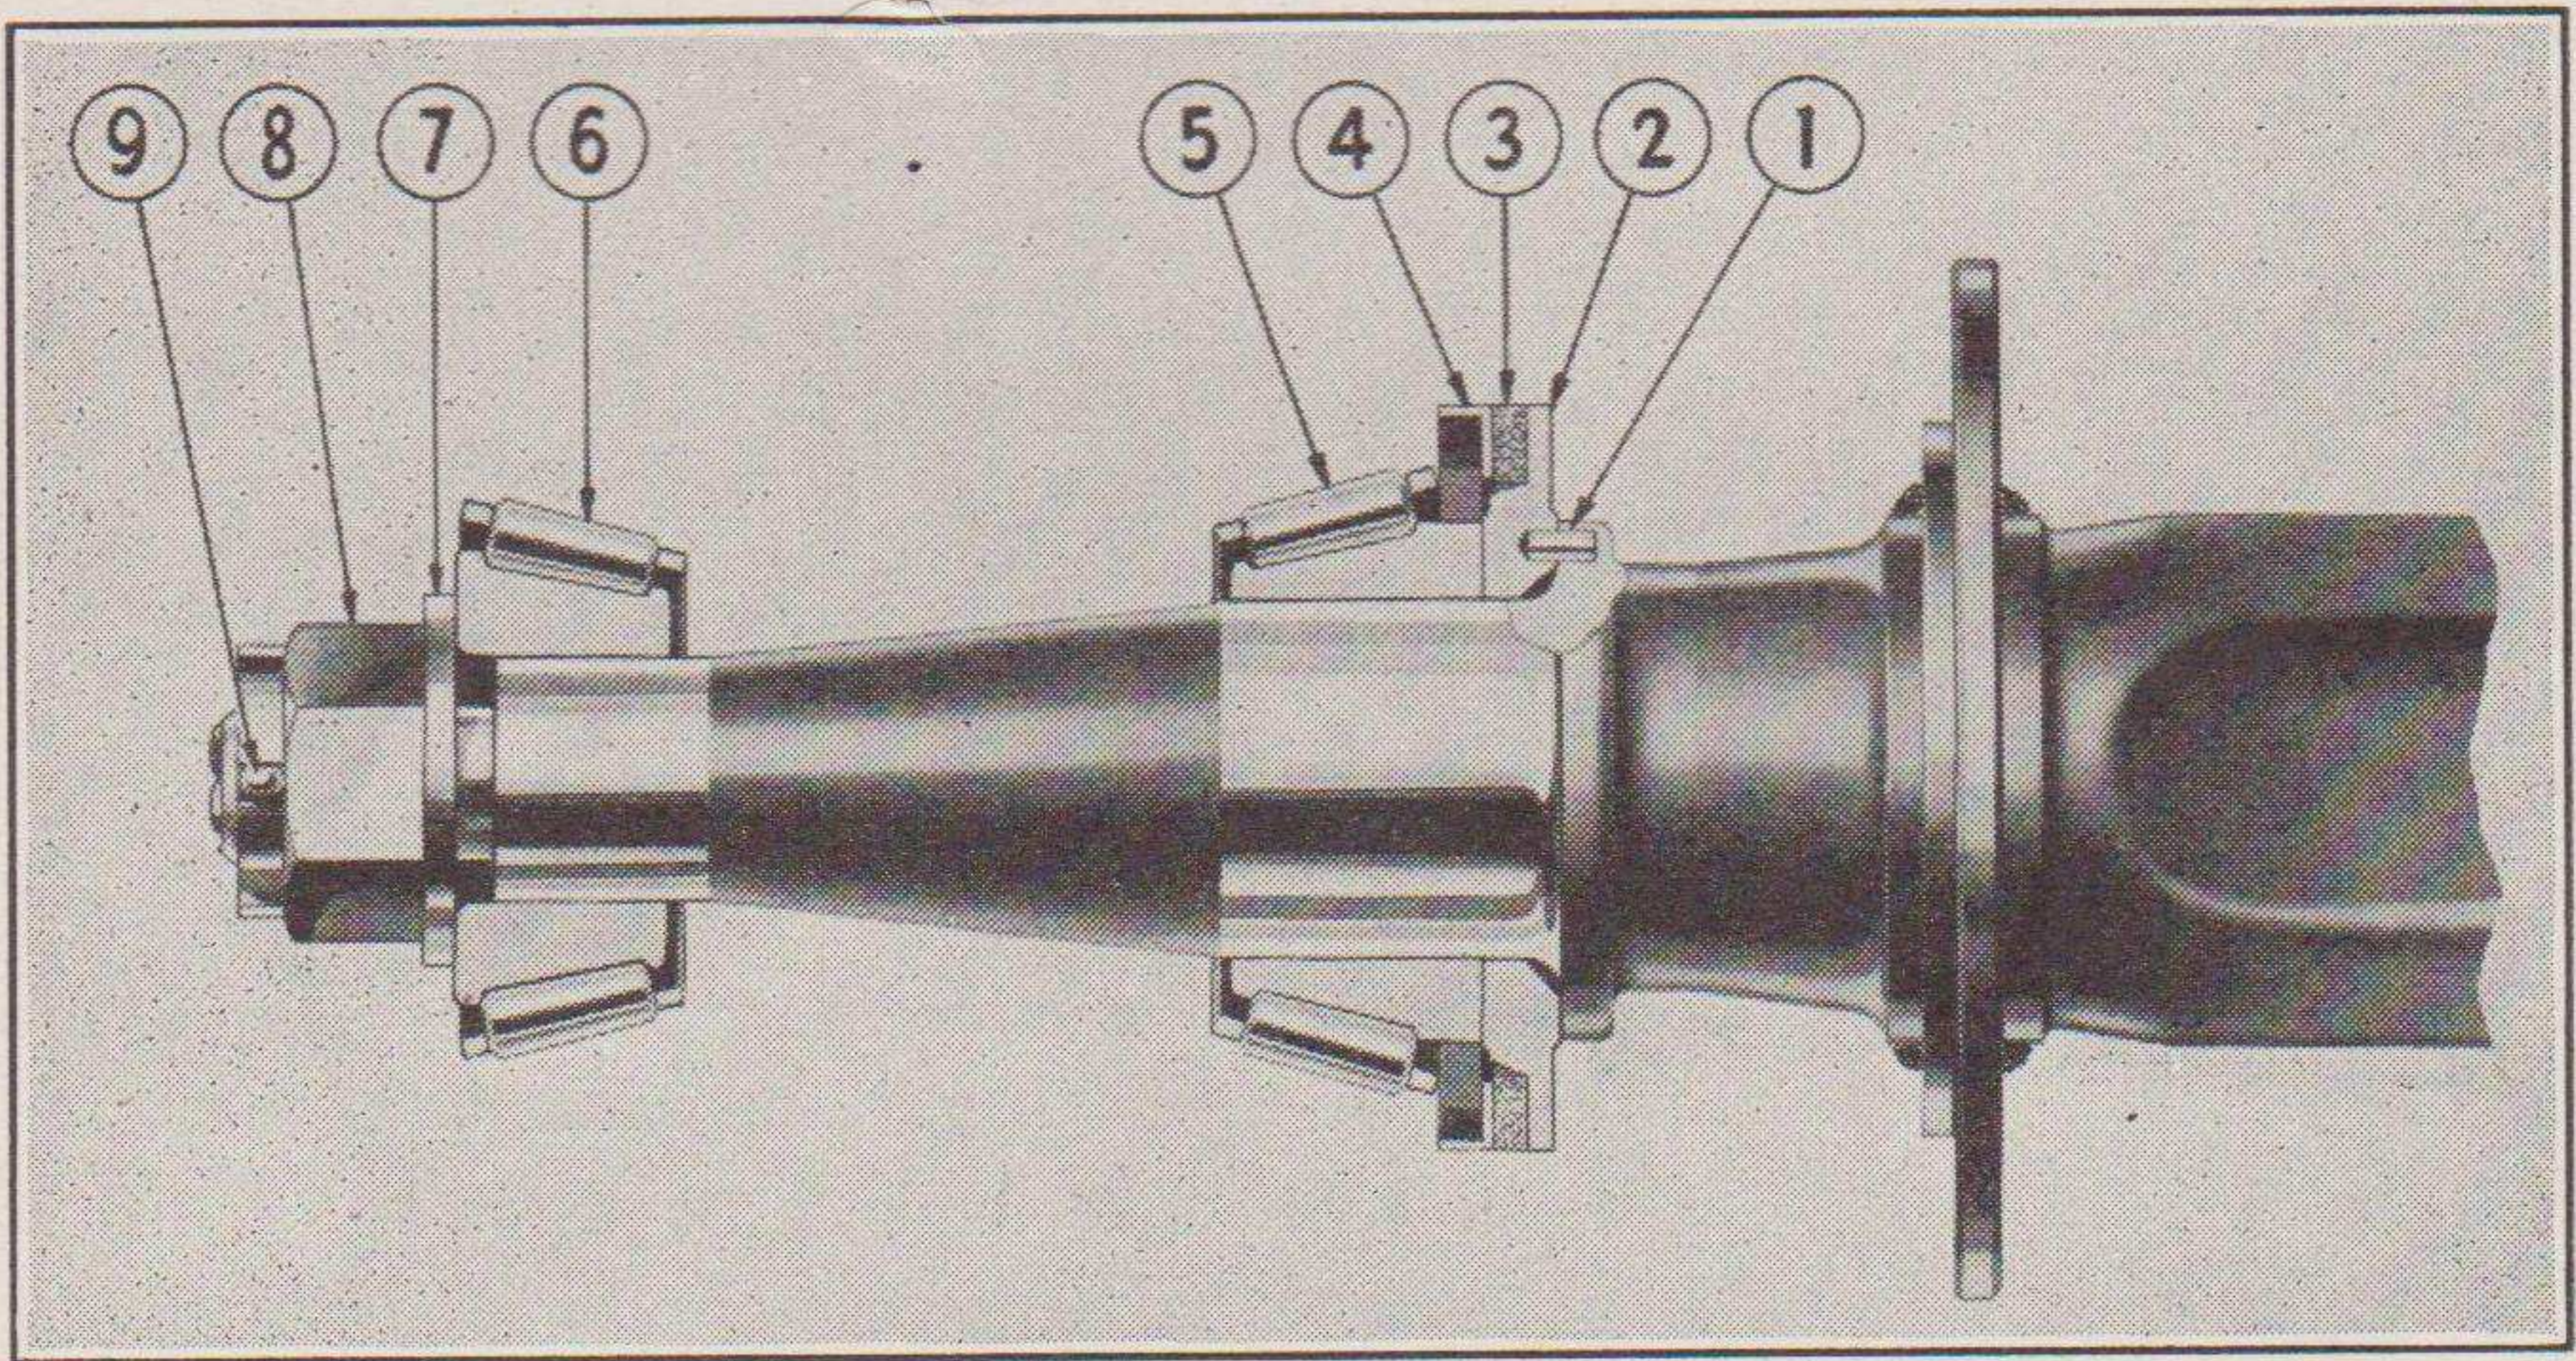

FIGURE 40. AXLE—CUTAWAY VIEW
b. To install the hub, proceed as follows: (Refer to Figure 40.)
(1) Repack the space in the hub between the two cups with new grease. Put about a $\frac{1}{8}$ " layer of grease on the inner and outer bearing cups and repack both inner and outer bearings.
(2) Now place the inner bearing (5) in the hub.
(3) Insert the compression ring (4) with its flanged side toward the *inside* of the hub. Place the felt grease retainer (3) next to the compression ring.
(4) Place the dust collar (2) on the axle spindle and lock it into place by means of the metal dowel (1) which fits into a slot on the spindle and a hole in the dust collar. The wheel is now ready to slip on.
(5) Using a greased skid plate, slide the wheel on the spindle. Place the outer bearing (6) in the hub and install the D washer (7).
(6) Turn the axle nut (8) up tight, then slacken off about $\frac{1}{3}$ turn. Test for excessive end play. Use a bar. Rest one end on the floor and lift up on outside tire. By working the bar up and down while holding one finger on the cage of the outer bearing, excessive play is quickly detected.
(7) With the bearings properly adjusted, fit cotter key (9) into wheel nut, fill the hub cap $\frac{1}{3}$ full of grease and reinstall with cap screws. Turn the wheel. If the wheel fails to turn freely, check for brake drag by means of the slack adjusters. If this fails to correct the trouble the felt grease retainer probably slipped out of place during assembly. To correct this difficulty, remove hub assembly and reinstall